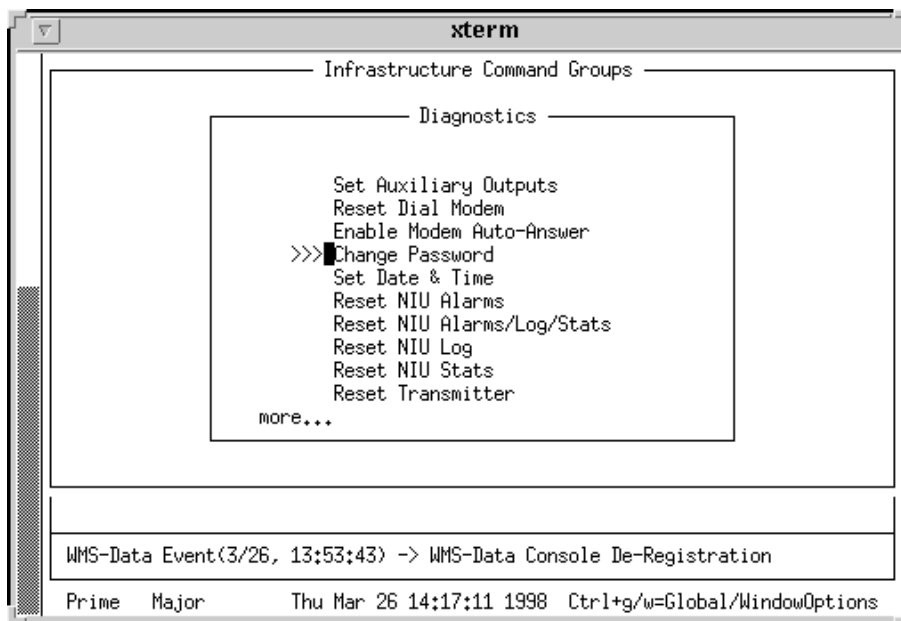

Figure 5-8: Diagnostics Screen—Change Password
1. From the Diagnostic menu, use the <tab> to position the cursor to the left of the listing Change Password and press: <Return> (see Figure 5-8).